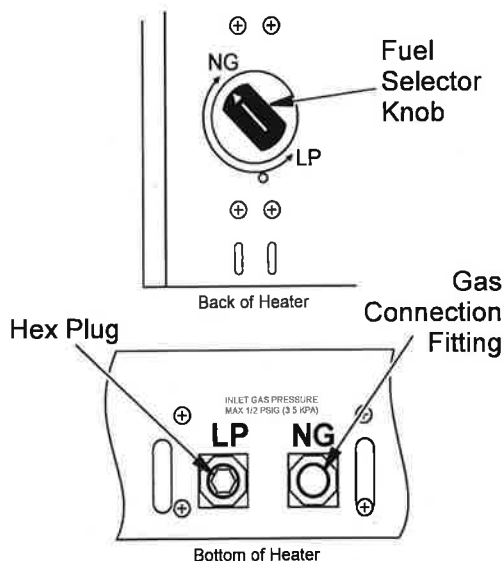

Figure 12 - Settings for Natural Gas Selection
1. Remove top screw from cover plate located on back of heater (see Figure 12). Rotate to expose fuel selection device.
2. For NATURAL GAS, press knob using a flat screwdriver with a blade with thickness of a quarter and turn knob clockwise until the knob locks into the NG position (see Figure 12). Fuel selection device must be locked in the NG position. Do not operate heater between locked positions!
4. Remove hex plug (with wrench provided) from natural gas inlet of regulator (see Figure 12). Install hex plug into LP inlet of regulator. Install gas line into NG inlet of regulator. Use thread sealant to ensure that there are no leaks.